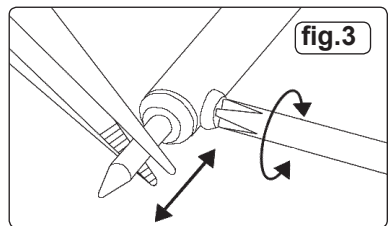

fig.3
4.1.7. **Changing tips.** After a prolonged period of service the tip may become pitted and need replacing. Wait till the iron is completely cool. Loosen the tip retaining nut and pull out the old tip with a pair of pliers. Insert the new tip and twist it into the orientation you require. Lock the tip in place by tightening the the retaining screw. See fig.3.